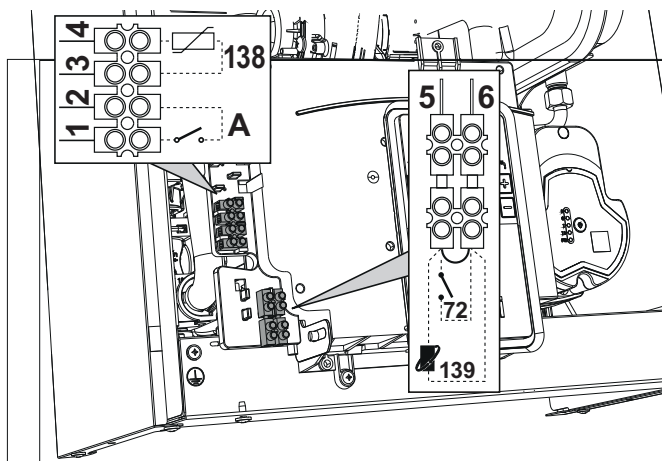
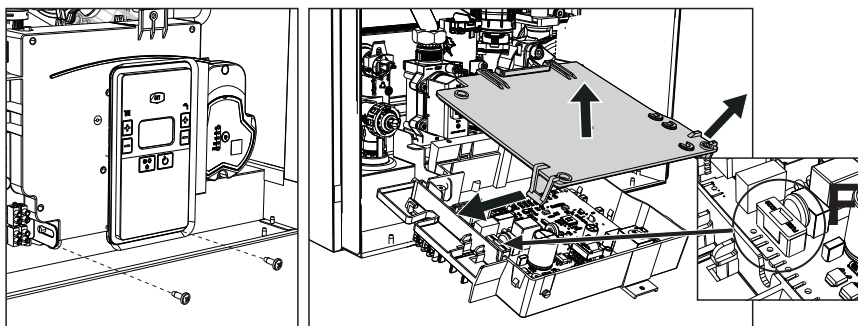

fig. 19
fig. 20
After removing the front panel (*** 'Opening the front panel' on page 281 ***) it is possible to access the terminal blocks (M) and the fuse (F) following the directions given below (fig. 19 and fig. 20). **The terminals indicated in fig. 20 must be with voltage-free contacts (not 230V).** The arrangement of the terminals for the various connections is also given in the wiring diagram in fig. 46.
ON/OFF (A fig. 20) configuration